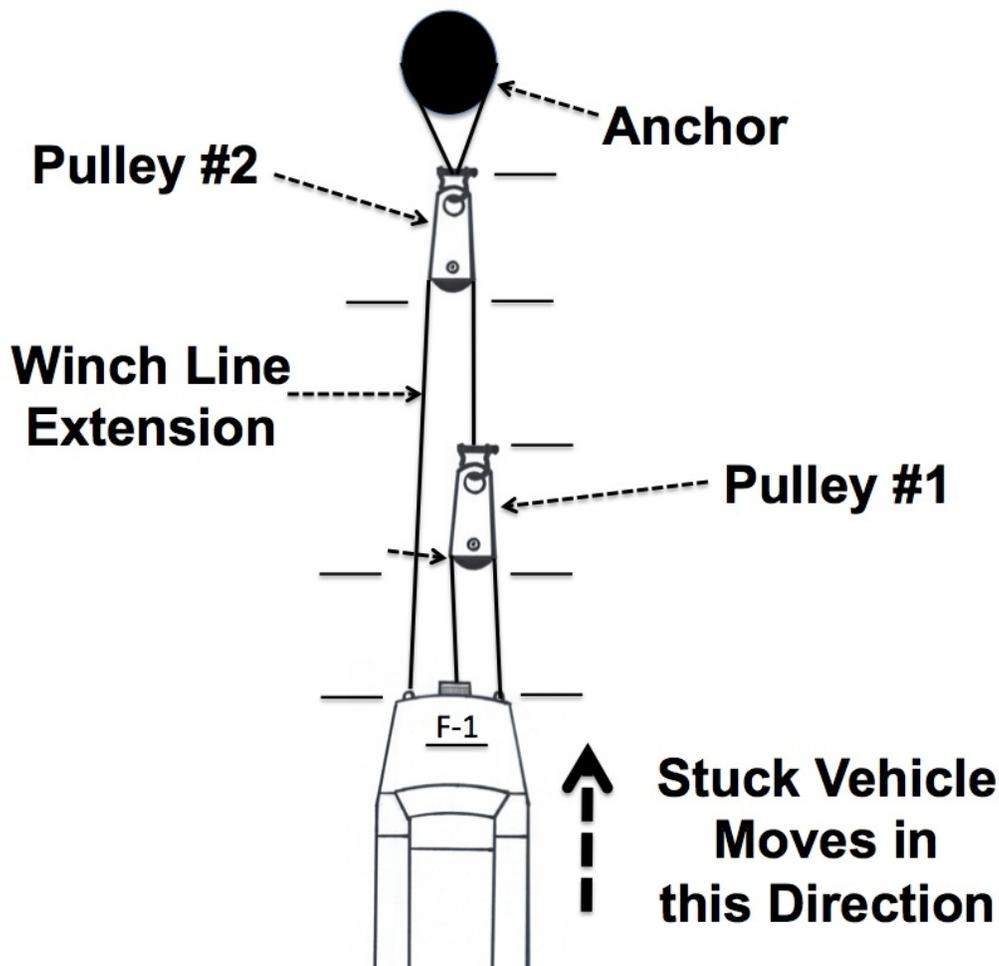

FIGURE 4
Step 2: Now place three blank lines next to EACH pulley – one where the line enters the pulley, one where the line exits the pulley, and one at the pulley connection point. Also place a blank line at each anchor point. **See Figure 4.**